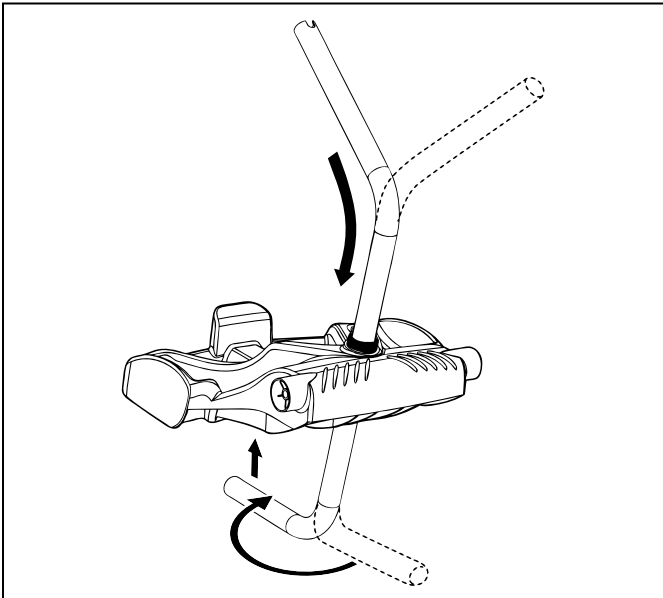

Figure 3. Connect Metal Frame to Base Unit
2. Insert the metal handle frame tubing into the base unit with notch end at the top, then rotate so the bends are away from you. (Figure 3).
- Push base unit down (Figure 3) so the metal handle frame is seated in the recess on the underside of the base.